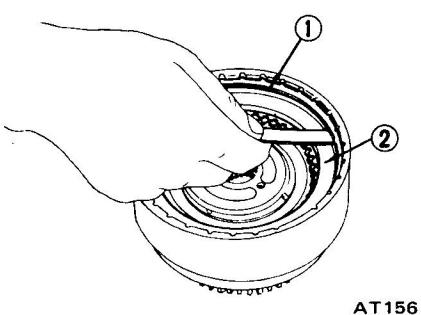

Fig. AT-88 Measuring ring to plate clearance
1. After rear clutch is assembled, check to be sure that clearance between snap ring ① and retaining plate ② is held within prescribed tolerances. See Figure AT-88.